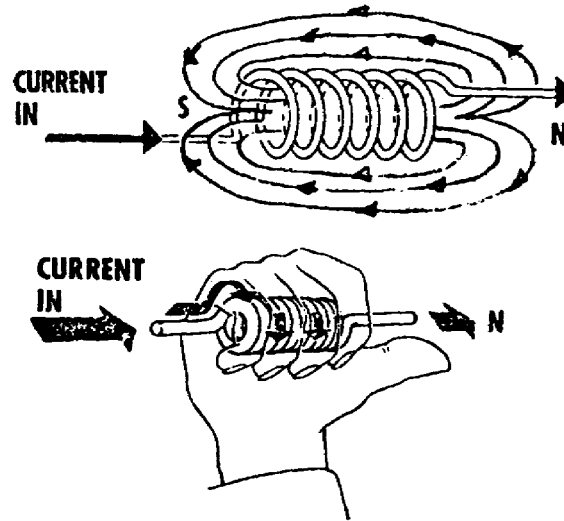

Figure 14. Right-hand rule.
c. When a wire carrying electric current is wound into a coil, a magnetic field with N and S poles is created just as in a bar magnet. Using the "Right-Hand Rule"--wrapping the fingers around the coil in the direction of current flow--the thumb will point toward the North or N pole (fig 14).